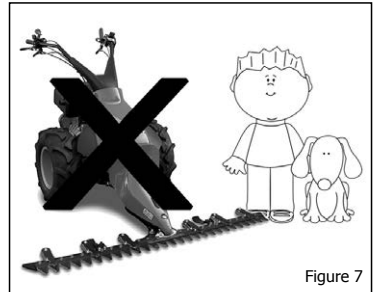

Figure 7
**DO NOT USE** the machine near children or animals (figure 7).